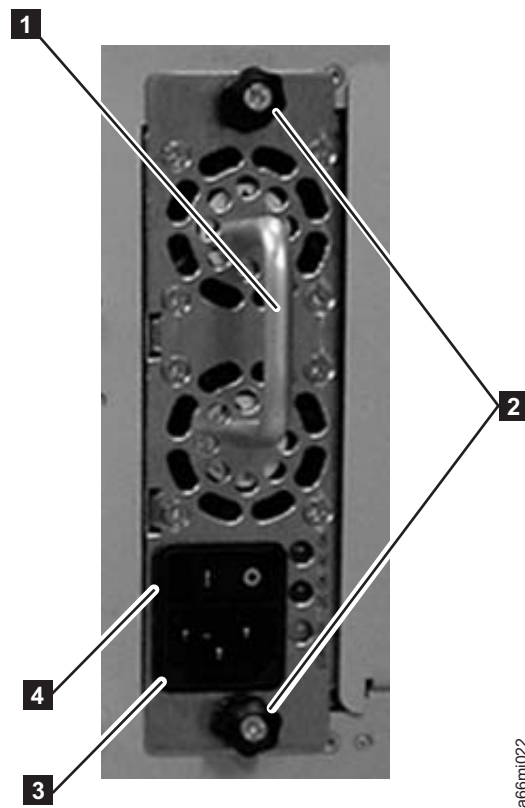

Figure 3-5. Power supply
1. Loosen the two thumb screws (**2** in Figure 3-5) on the power supply by turning them counterclockwise.
2. To remove the power supply, grasp the handle (**1** in Figure 3-5) and slowly pull it toward you, while it is supported from underneath.